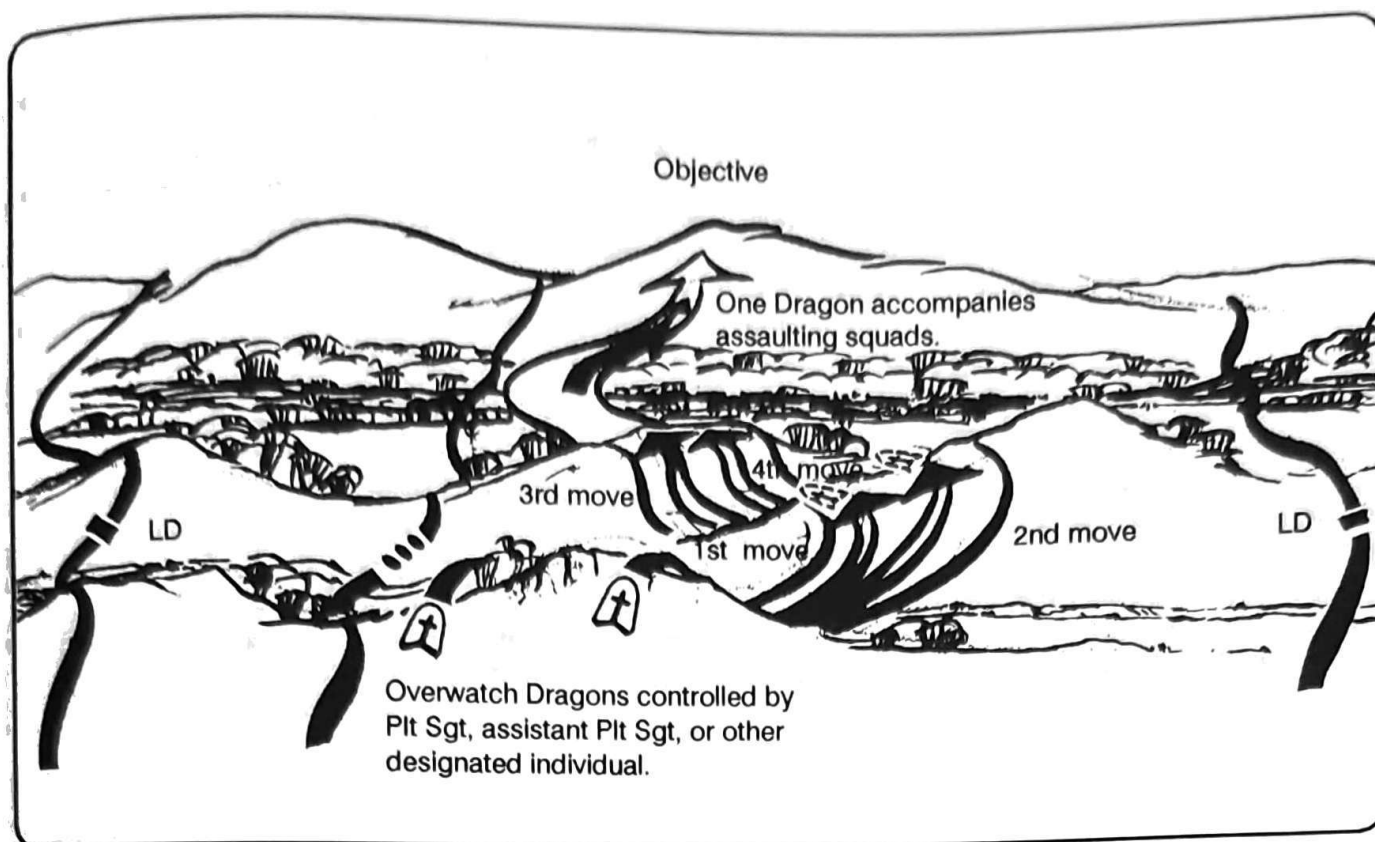

Figure 3-36. Overwatch Dragons in the attack.
(1) If the LD is close to the assault position or the initial objective and good firing positions are available, some Dragons may occupy positions on or near the LD.
(2) Where the LD is too far from the assault position or objective or when suitable firing positions do not exist, the Dragon gunners should accompany the maneuvering elements across the LD until the mission is accomplished. In mechanized units, Dragons can provide covering fire from the dismount point. When centrally controlled, Dragons normally displace by bounds to ensure continuous overwatch of the advance (Figure 3-36).